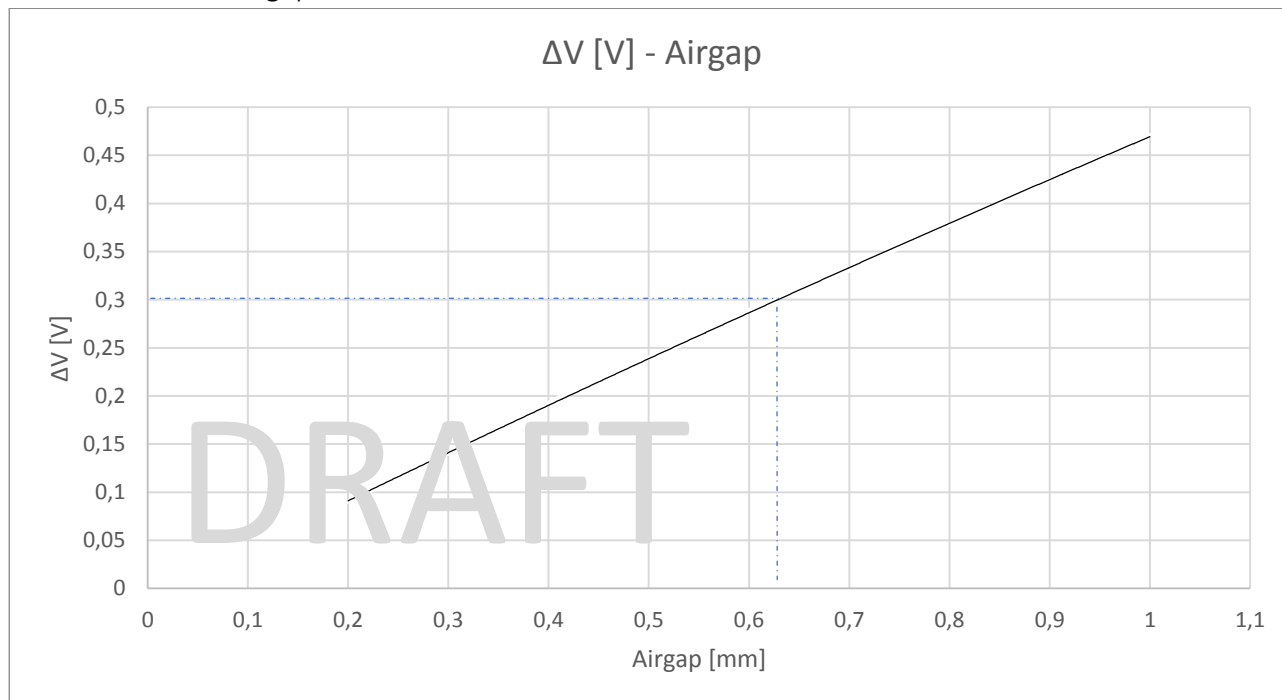

Fig. 3: ΔV – Airgap Curve
-  If you need to know the airgap value, please refer to Fig. 3
4. Refer to fig.3 in order to understand which is the airgap in this moment